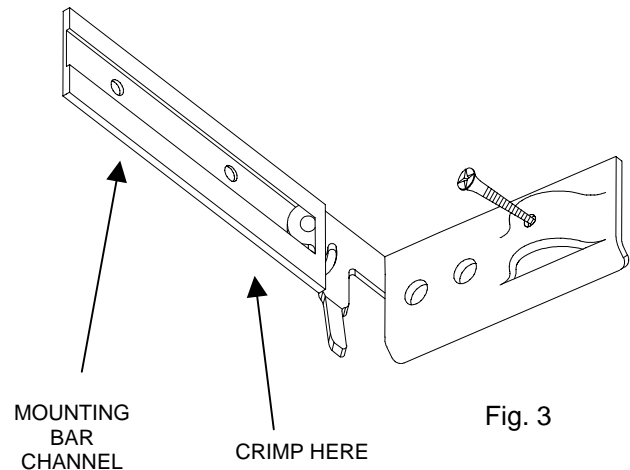

Fig. 3
- Crimp bottom of edge of CHANNEL to prevent rotation of HINGED BAR ENDS (FIG.3).